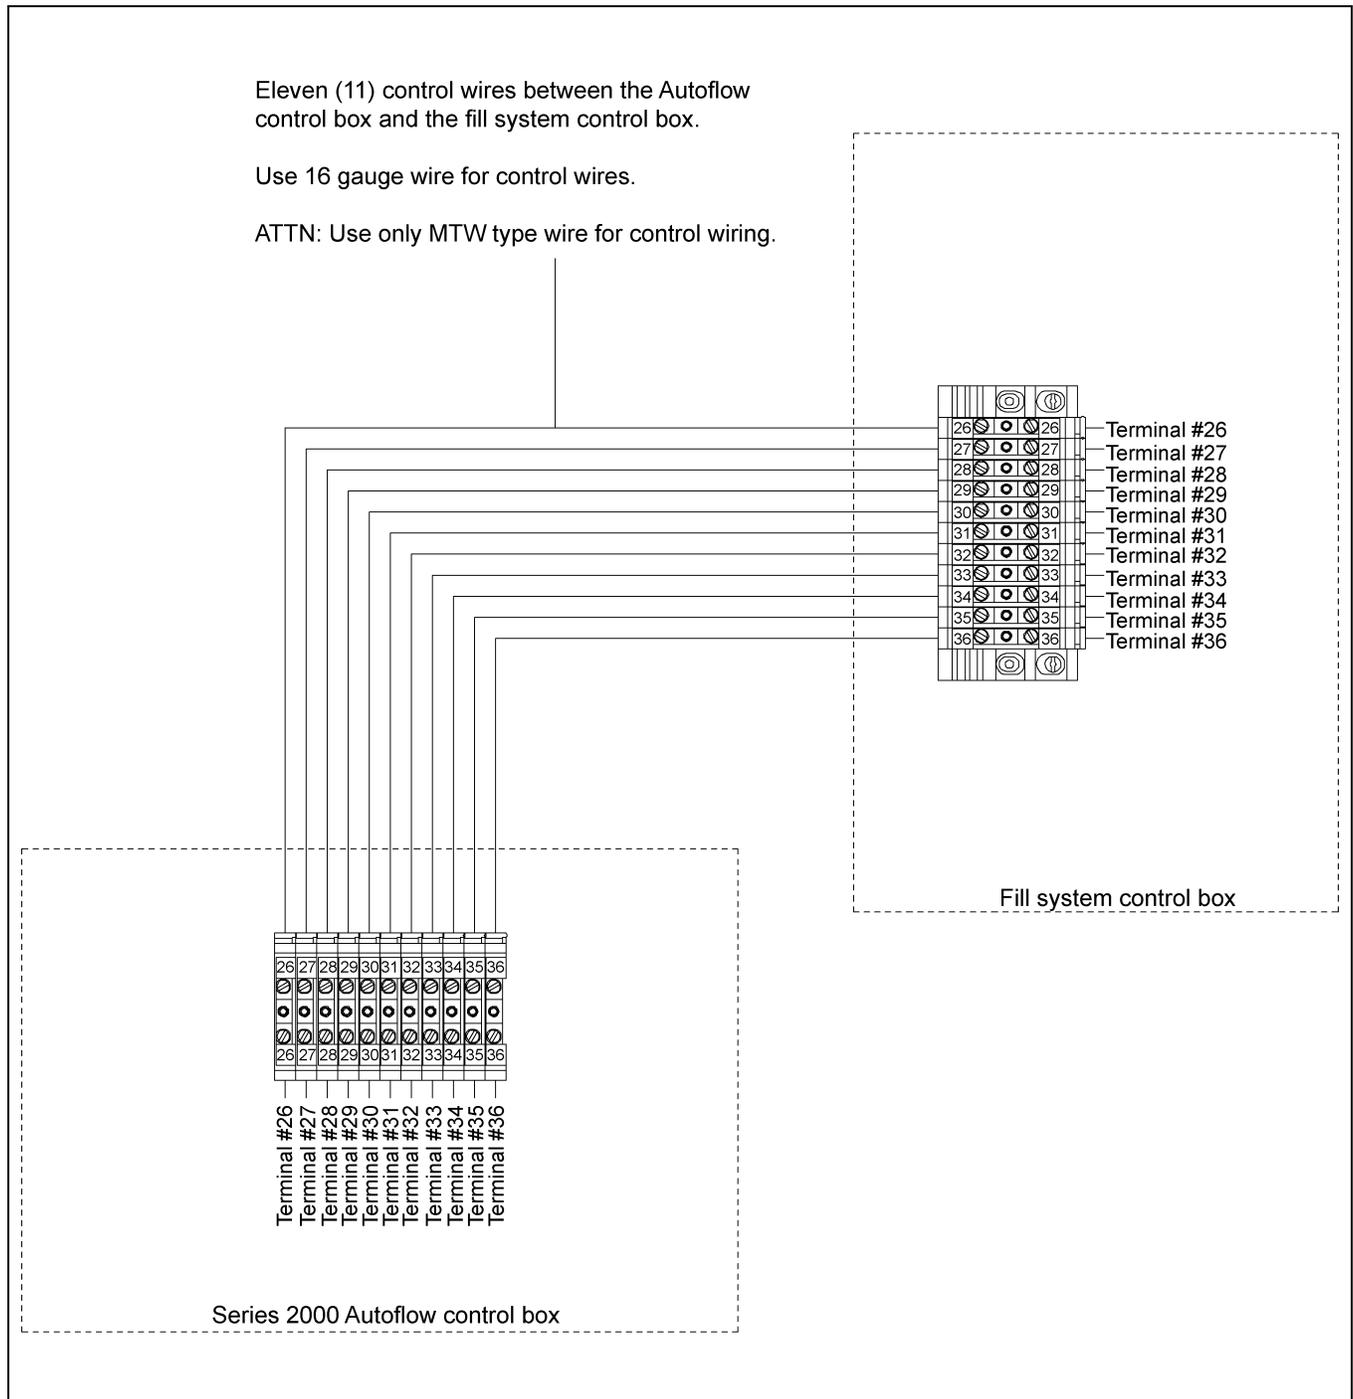

Figure 4L
1. Run eleven (11) control wires from the Autoflow control box to the fill system control box.
2. Connect the wires as shown in *Figure 4L*.